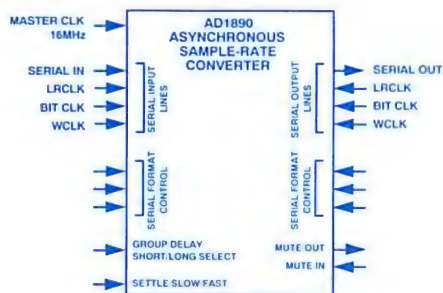

Figure 4. Control signals for the AD1890 VLSI SRC chip.
**Using the AD1890:** for all its sophistication, the AD1890 is easy to hook up. Figure 4 shows the important signals. There are two serial ports, one each for the input and output. Each serial interface is quite simple and consists of an L/R clock, bit clock, word clock (optional), and data. Because this is an asynchronous SRC, the serial control signals are inputs to the chip (not outputs).